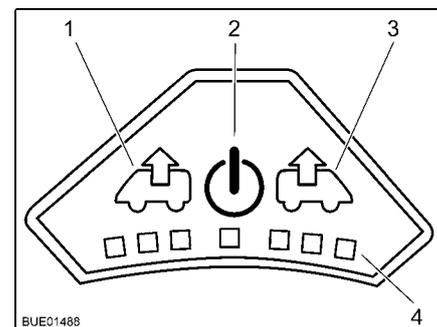

Fig. 112 Control panel for fan
Switching on: ■ Press the On/Off button (Fig. 112,2). The fan runs in comfort mode (venting at slowest fan speed).
Venting: ■ To increase the fan speed: Press the Vent button (Fig. 112,1). The fan speed in the venting direction increases by one level. LEDs (Fig. 112,4) show the operating levels.
■ To lower the fan speed: Press the Aerate button (Fig. 112,3). The fan speed decreases by one level.
Aerating: ■ To increase the fan speed: Press the Aerate button (Fig. 112,3). The fan speed in the aerating direction increases by one step. LEDs (Fig. 112,4) show the operating levels.
■ To lower the fan speed: Press the Vent button (Fig. 112,1). The fan speed decreases by one level.
Switching off: ■ Press the On/Off button (Fig. 112,2). The fan stops, the LEDs go out.